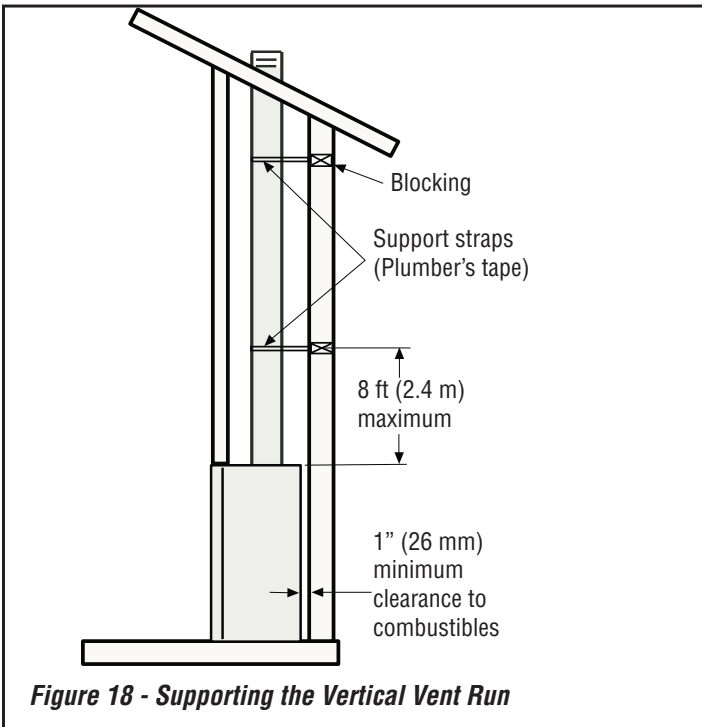

Figure 18 - Supporting the Vertical Vent Run
4. **Support the vertical vent run sections**—Support the vertical portion of the venting system every 8 ft (2.4 m) above the fireplace vent outlet. One method of support is by utilizing field provided support straps (conventional plumber's tape). Secure the plumber's tape to the framing members with nails or screws. Loop the tape around the vent, securing the ends of the tape to the framing. If desired, sheet metal screws #6 x 1/2" length may be used to secure the support straps to the vent pipe (**Figure 18, Page 19**).